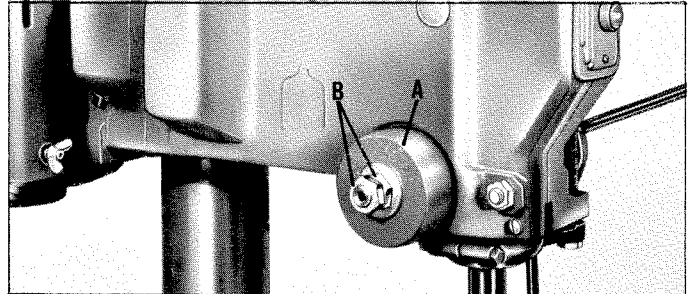

Fig. 1.
For the purpose of automatically returning the spindle upward after a hole has been drilled, a spring is provided enclosed in the case (A) Fig.1, and is located on the left side of the drill press head. This spring has been properly adjusted at the factory and this adjustment should not be disturbed unless absolutely necessary. If it should become necessary to adjust it, proceed as follows:
1. Back off the two nuts (B) Fig. 1. NOTE: Do not remove the inside nut from the shaft. The nuts(B) should be backed off just far enough so that the spring housing (A) can be disengaged from the roll pin in the head casting.
2. With a firm hold on the spring housing (A) Fig. 1, disengage it from the pin in the drill press head, by pulling the housing straight out, and turn the housing counterclockwise to increase or clockwise to decrease tension. CAUTION: BE CAREFUL NOT TO BOTTOM THE RETURN SPRING WHILE TURNING THE HOUSING COUNTERCLOCKWISE. THERE SHOULD BE ENOUGH SLACK LEFT IN THE SPRING TO PERMIT LOWERING THE SPINDLE THE FULL AMOUNT OF TRAVEL. Be sure the pin in the drill press head is engaged with the spring housing before releasing grip.
3. Retighten the two nuts (B) Fig. 1. NOTE: Do not over-tighten the inside nut against the spring housing (A) as this may cause binding of the pinion shaft.